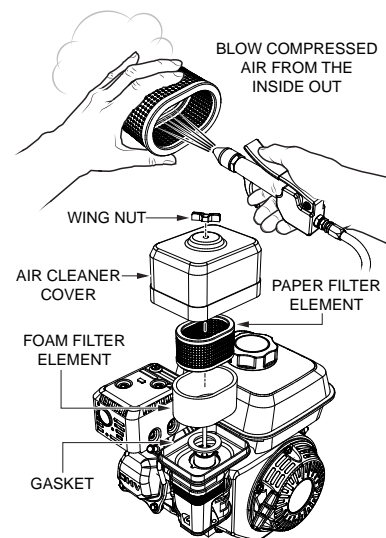

Figure 28. Engine Air Cleaner
- Remove the air cleaner cover and foam filter element as shown in Figure 28.
- Tap the paper filter element (Figure 28) several times on a hard surface to remove dirt, or blow compressed air [not exceeding 30 psi (207 kPa, 2.1 kgf/cm²)] through the filter element from the air cleaner case side. **NEVER** brush off dirt. Brushing will force dirt into the fibers. Replace the paper filter element if it is excessively dirty.